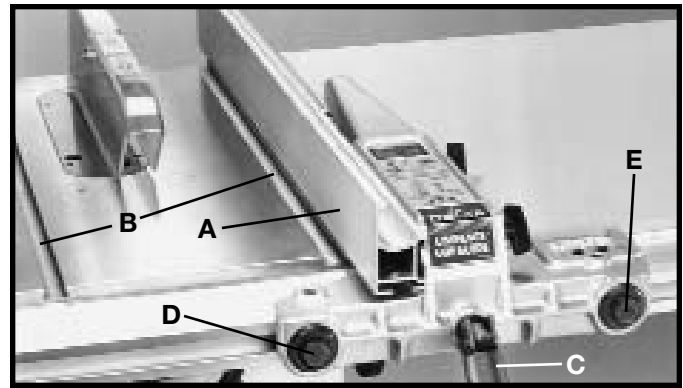

Fig. 48
The fence (A) Fig. 48, should be adjusted so it is parallel to miter gage slots (B). To check and adjust, move the fence (A) until the bottom front edge of the fence is in line with the edge of the miter gage slot as shown, and push down on fence clamping lever (C). Check to see if the fence is parallel to the miter gage slot the entire length of the table. If the rear of the fence must be moved, slightly tighten or loosen one of the adjustment plugs (D) or (E) Fig. 48, using the arbor wrench or a 7/8" wrench, until the fence is parallel with the miter gage slot. **IMPORTANT: DO NOT OVER-TIGHTEN PLUGS (D) AND (E) FIG. 48. VERY LITTLE MOVEMENT OF THESE PLUGS IS NECESSARY WHEN ADJUSTING THE FENCE PARALLEL WITH THE MITER GAUGE SLOT.**